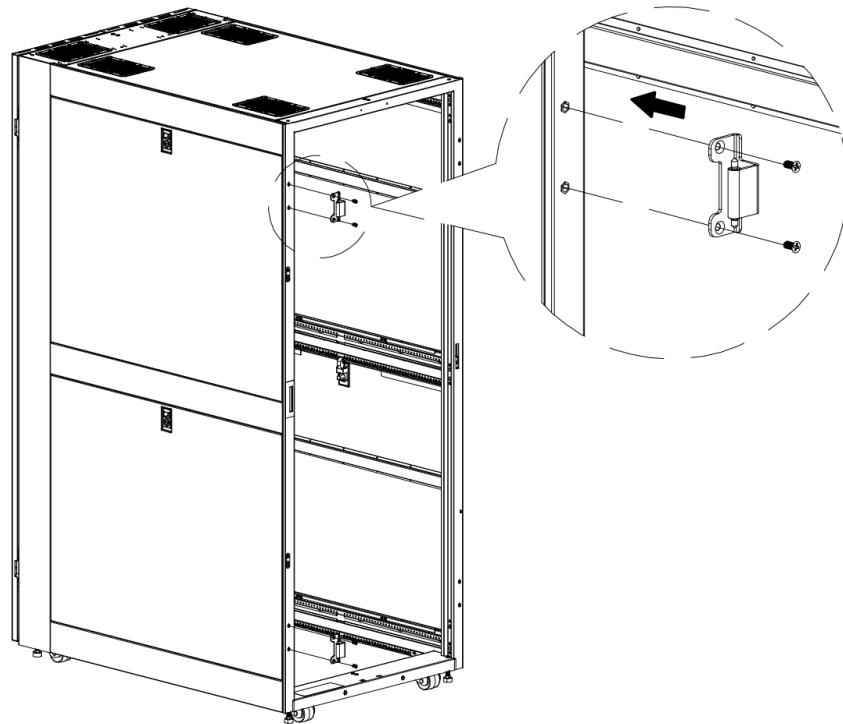

Figure 6.3.7
- Reinstall the hinges and tighten the screws to a recommended torque of 56.4 lb-in (6.3 N•m).(Figure 6.3.7)